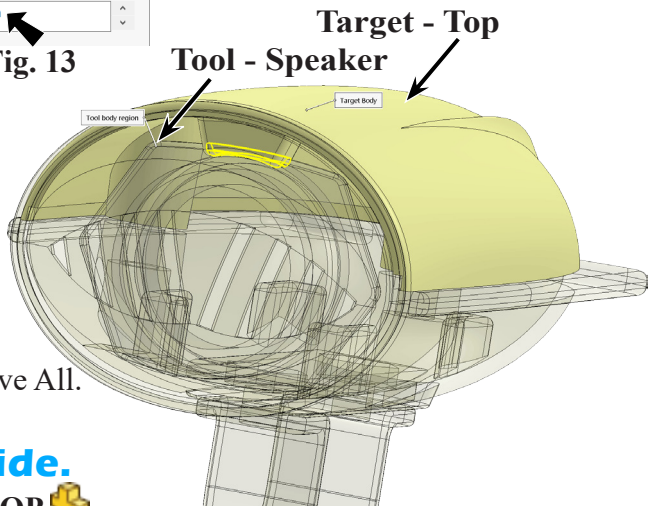

Fig. 14
Step 2. Rotate view to view **inside of front grill**, **Fig. 14**.
click **Top**, **Fig. 14**